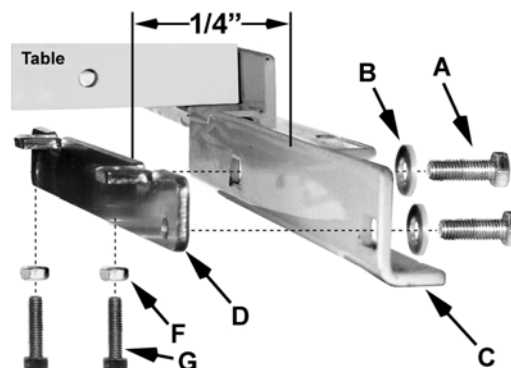
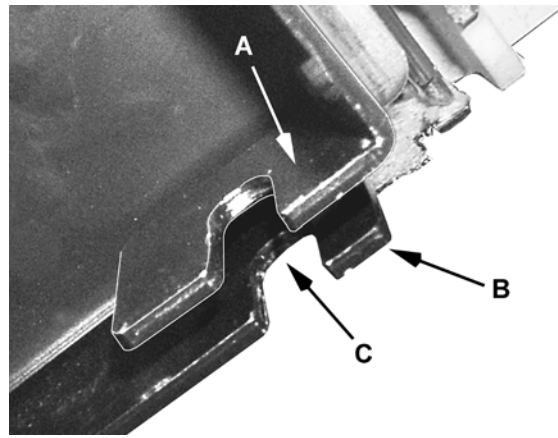

Figure 8
Figure 10
Referring to Figure 8:
The procedure for installing the *leveling brackets* is the same for front rail and back rail. The illustration (Figure 8) shows the front rail.
5. Ensure that there is approximately a 1/4" gap between rails and the brackets (C & D, Fig. 8) so that you can set the sliding table in position.
The support plate underneath the sliding table (Figure 10) has an *inner tab* (A) and an *outer tab* (B). When placing the table onto the *leveling bracket* (D, Fig. 8), the leveling bracket must be positioned *between* the inner and outer tabs and the *slots* in the tabs (C, Fig. 10) must straddle the screws (A, Fig. 8) that secure the leveling bracket (D, Fig. 8) to the rail (C, Fig. 8).
7. The sliding table should rest on the jacking screws (G, Fig. 8).
9. Lower, or raise *jacking screws* (G, Fig. 8) so that the sliding table surface is approximately flush, or slightly lower than table saw table surface.
12. Use two jacking screws (G, Fig. 8) to raise the sliding table until it contacts the straight edge. The straight edge should rest flat on sliding table and shims.
14. Tighten *hex nuts* (F, Fig. 8) against the leveling bracket tabs while keeping *jacking screws* (G, Fig. 8) from turning.
16. Verify that the jack screws (G, Fig. 8) contact the sliding table support plate (Fig. 12).